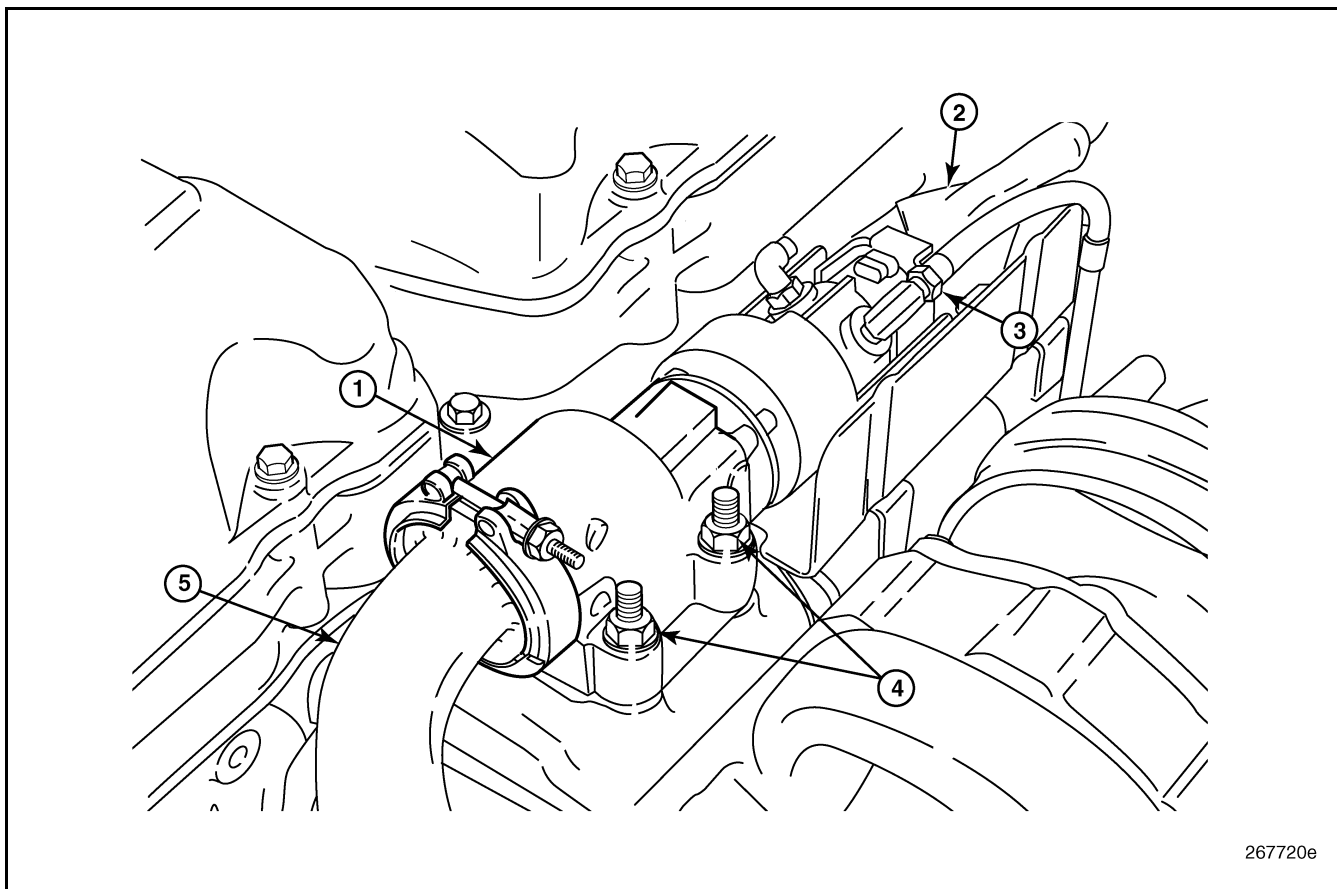

Figure 499 — EGR Valve, Installed
2. Disconnect the oil supply and oil return lines at the EGR valve (Figure 499).